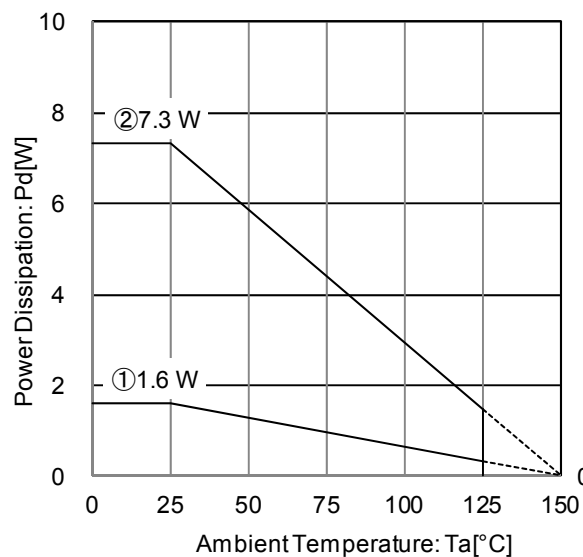

Figure 17. Package Data (HRP7)
Refer to Figure 17 thermal dissipation characteristics for usage above  $T_a = 25 \text{ }^{\circ}\text{C}$ . The IC's characteristics are affected heavily by the temperature, and if it exceeds its max junction temperature ( $T_{jmax}$ ), the chip may degrade or destruct. Thermal design is critical in terms of avoiding instantaneous destruction and reliability in long term usage.
The IC needs to be operated below its max junction temperature ( $T_{jmax}$ ) to avoid thermal destruction. Refer to Figure 17 for HRP7 package thermal dissipation characteristics. Operate the IC within power dissipation ( $P_d$ ) when using this IC.
At  $T_a = 125 \text{ }^{\circ}\text{C}$  with Figure 17 ② condition, the calculation shows that ca 207 mA of output current is possible at 7 V potential difference across input and output.